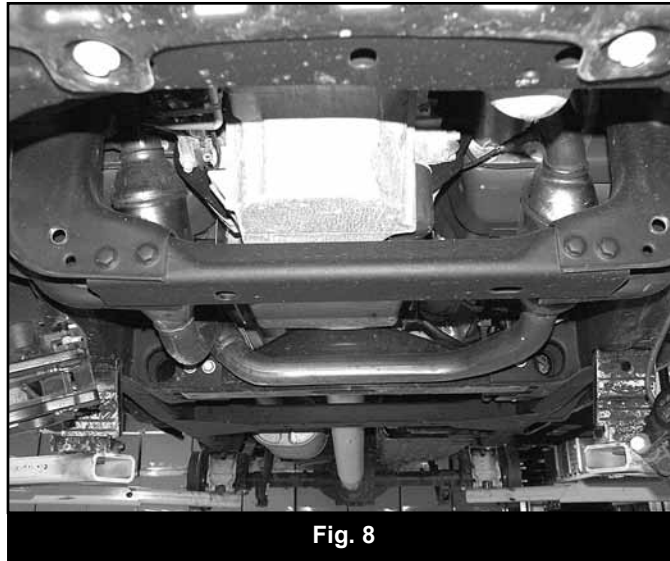

Fig. 8
16. Remove the four bolts and the OE rear control arm pocket crossmember from the vehicle (Fig 8). Retain bolts.